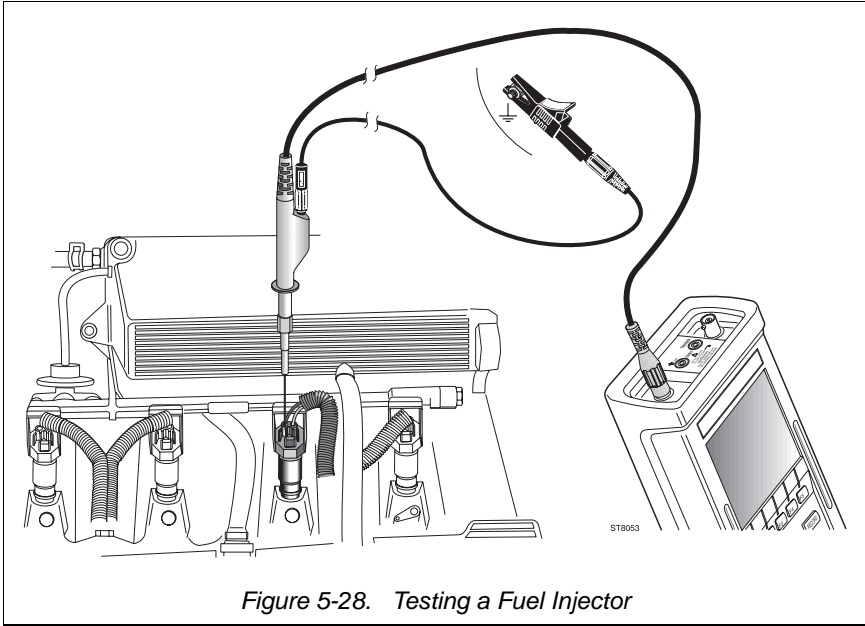

Figure 5-28. Testing a Fuel Injector
- ④ Connect the test leads as displayed by the test tool's Connection Help and shown in Figure 5-28.
- ⑤  Starts the Fuel Injector test.